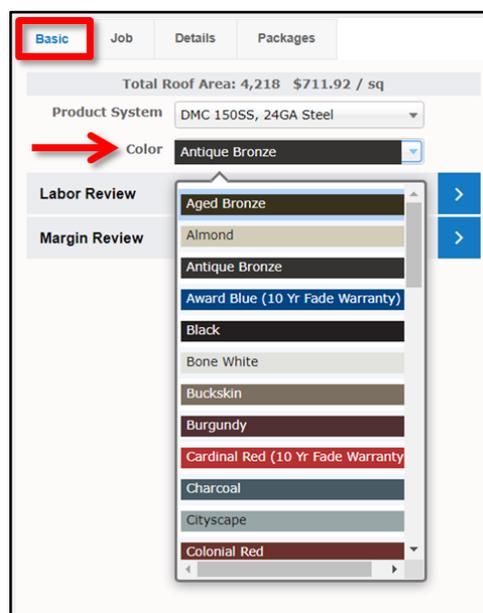

Figure 19: Selecting a new color from the *Color* drop-down list.
4. On the *Basic* Tab, click on the drop-down arrow in the *Product System* field, as pictured in **Figure 19**. Note that the metal options that appear in your drop-down list have been customized to meet the needs of your organization, so they will differ from the metal options shown here.